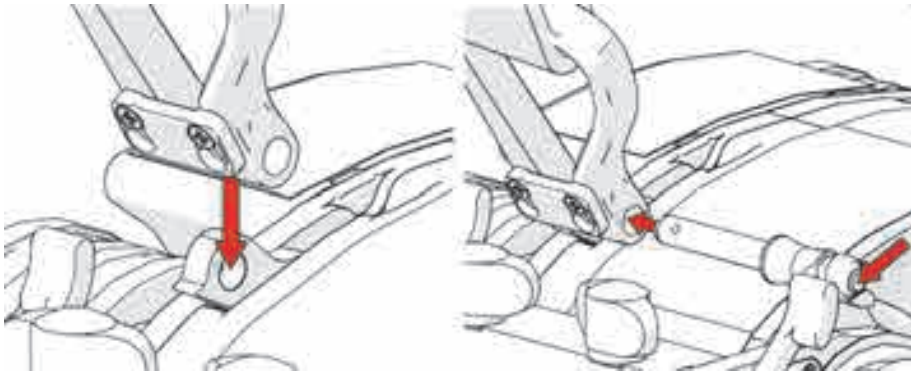

Figure 1-4 Aligning shackle with tether (*left*) and inserting pin (*right*)
3. Slide the shackle around the tether attachment point (see Figure 1-4 on page 34 [*left*]).
4. Align the tether attachment point and shackle, and then insert the pin while pressing the pin's release button (see Figure 1-4 on page 34 [*right*]).